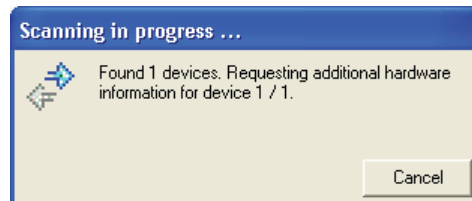

Figure 2-6. Found new device.
5. *FieldCare* should detect one device (the DP transmitter) as shown in Figure 2-6.